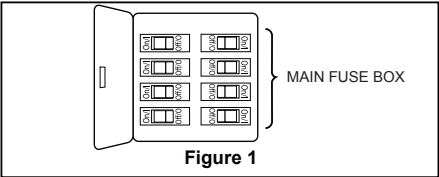
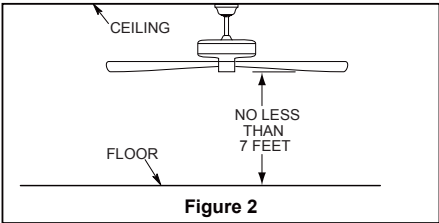
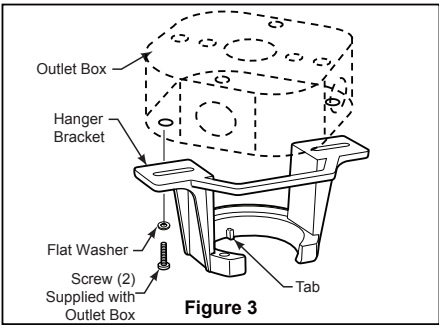

Figure 1
Figure 2
Figure 3
Your new ceiling fan will require a grounded electrical supply line of 120 volts AC, 60 HZ, 15 Amp Circuit. Electrical code requires use of a fan-rated outlet box to support the extra weight and motion associated with a ceiling fan. A fan-rated box will be labeled as such and typically supports up to a 70lbs ceiling fan. Fan-Rated Outlet Boxes vary in ratings and design. Ensure the ratings of your ceiling fan outlet box meet the requirements for the ceiling fan being installed. Figure 1, Figure 2 and Figure 3 depicts different structural configurations that may be used for mounting the outlet box.
Low-profile use (Figure 1)
Deep-profile use (Figure 2)
Brace use (Figure 3)
1. Remove the two set screws and locking nuts in the downrod support of the motor assembly and retain for reinstallation in Step 4 of Page 8. Disassemble the upper housing cover by removing the six screws at the top of the motor assembly and retain for Step 3. Carefully twist and lift off the cover. (Figure 1)
2. Slide blades through slots in motor housing and attach to the motor hub using the #8-32 washer head screws and fiber washers. Make sure the screws securing the blades to the motor hub are tight and are properly seated. (Figure 2)
3. Reassemble the upper housing cover to the motor assembly using the previously removed screws. (Figure 3)
- ☐ 1. Remove the hanger ball portion from the downrod/hanger ball assembly by loosening the set screw in the hanger ball until the ball falls freely down the downrod. Remove the pin from the downrod, then remove the hanger ball. Retain the pin and hanger ball for reinstallation in Step 6. (Figure 1)
- ☐ 2. Remove the hairpin clip and clevis pin from the bottom of the downrod. Retain the pin and clip for reinstallation in Step 4. (Figure 2)
- ☐ 3. Loosen the two set screws and locking nuts in the downrod support of the motor assembly. Route the brown, blue, red, gray and yellow wires through the downrod. (Figure 3)
To avoid possible fire or shock, be sure electricity is turned off at the main fuse box before hanging. (Figure 1)
The fan must be hung with at least 7' of clearance from floor to blades. (Figure 2)
- ☐ 1. Securely attach the hanger bracket to the outlet box (not included) using the outlet box screws and washers supplied with the outlet box. (Figure 3)
1. To set the code on receiver unit, slide dip switches to the same positions as set on the remote control. (Figure 1)
To avoid possible electrical shock, be sure electricity is turned off at the main fuse box before wiring. (Figure 2)
2. Slide the receiver into the hanger bracket before wiring as shown in figure 3.
- ☐ 2. Securely attach and tighten the canopy screw cover over the shoulder screws in the hanger bracket utilizing the keyslot twist-lock feature. (Figure 2)
2. Remove the three screws in the light kit assembly. Retain the screws for Step 4. (Figure 2)
- ☐ 2. Restore electrical power to the outlet box by turning the electricity on at the main fuse box. (Figure 2)
- ☐ 3. Remove the battery cover from remote control by screwdriver and retain the screw for later. (Figure 3)